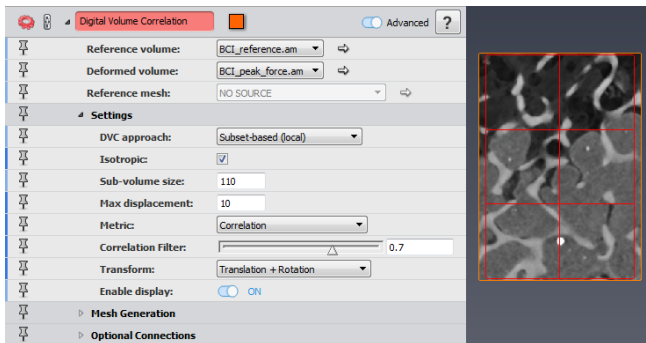

Figure 19.8: Digital Volume Correlation module with Subset-based (local) approach.
- Attach a *Digital Volume Correlation* module to the data *BCI_reference*. Set the *Deformed volume* port to *BCI_peak_force.am* and *DVC approach* port to *Subset-based (local)*. Activate the Advanced toggle switch. Set the *Sub-volume size* port to 110, *Max displacement* to 10, and *Correlation Filter* to 0.7. Turn *Enable Display* port to *ON* to visualize the sub-volumes. Set the *Metric* port to *Correlation* and *Transform* port to *Translation + Rotation*. For each sub-volume, the algorithm finds iteratively the six parameters (three translations, three rotations) of a rigid transformation matrix that satisfy the best match between the grey level intensity of the reference and deformed image (Metric = 0: no match; Metric = 1: perfect match) (see Figure 19.8). Click **Apply**.